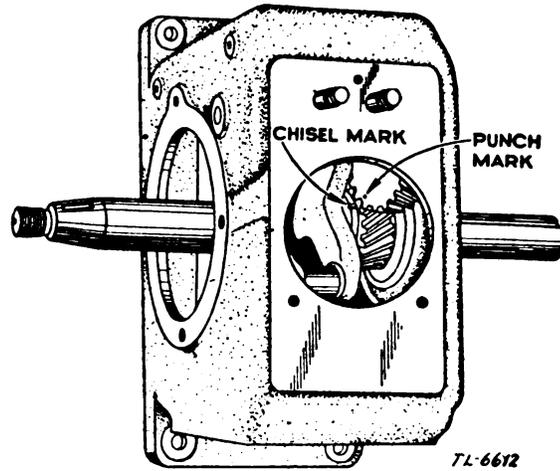

FIGURE 16. Valve timing.
c. Valve adjustments. (1) To check valve clearance, remove the valve cover plate. The correct clearance on both the exhaust valve and the intake valve is 0.020 inch. These clearances should be checked and adjusted when the motor is cold. Tappet clearance is adjusted by grinding the required amount from the ends of the valve stems. On some models, the clearance is obtained by loosening the tappet lock nut and adjusting the tappet screw. The ends of the stems must be square with the stem proper.
(2) To remove valves, remove the cylinder head, and, if the engine is not dismantled, drain the oil from the crankcase. Invert the cylinder. Compress the spring with the valve spring compressor; with the end of the screw driver, push out the split collars, and release the spring compressor. Tilt the cylinder back far enough to allow the valve to drop, permitting its stem to clear the spring. Pry the spring out with the end of a screw driver.
(3) To replace valves and valve springs, compress the spring with the valve spring compressor. Turn the tool to the inverted position, with the collar retainer washer on top. Drop the split collars in place in the retainer washer, one at a time. When the first half of each split collar has been placed in the retainer washer, push it around to the back of the valve stem to facilitate placing the second half. If the valves or valve seats are pitted or otherwise in need of grinding, use a fine grade of valve-grinding compound. Be extremely careful not to get any of the grinding compound into other parts of the engine. The timing of the valves is taken care of by the meshing of the camshaft gear with the gear on the crankshaft. These gears are properly meshed when the mark on the camshaft gear is in line with the mark on the crankshaft collar (fig. 16).